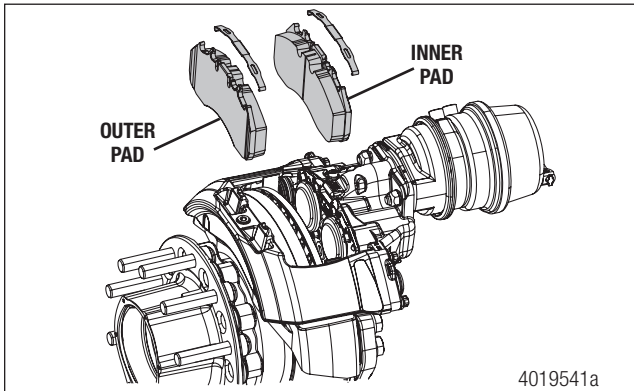
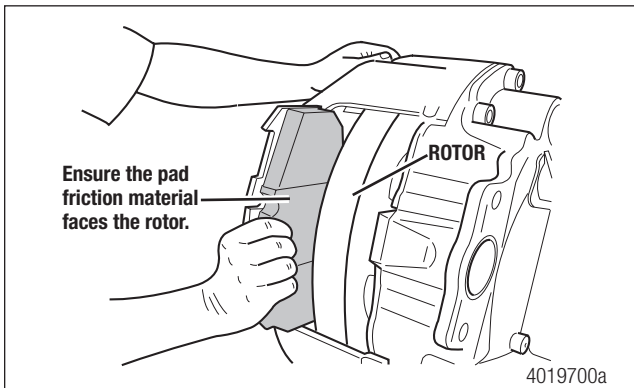

Figure 22
Figure 23
16. Install brake pads into the caliper as follows. Slide the caliper **OUTWARD**. Install the outboard pad and spring into the outboard side of the caliper. Make sure the friction material is facing towards the rotor. Figure 22 and Figure 23.